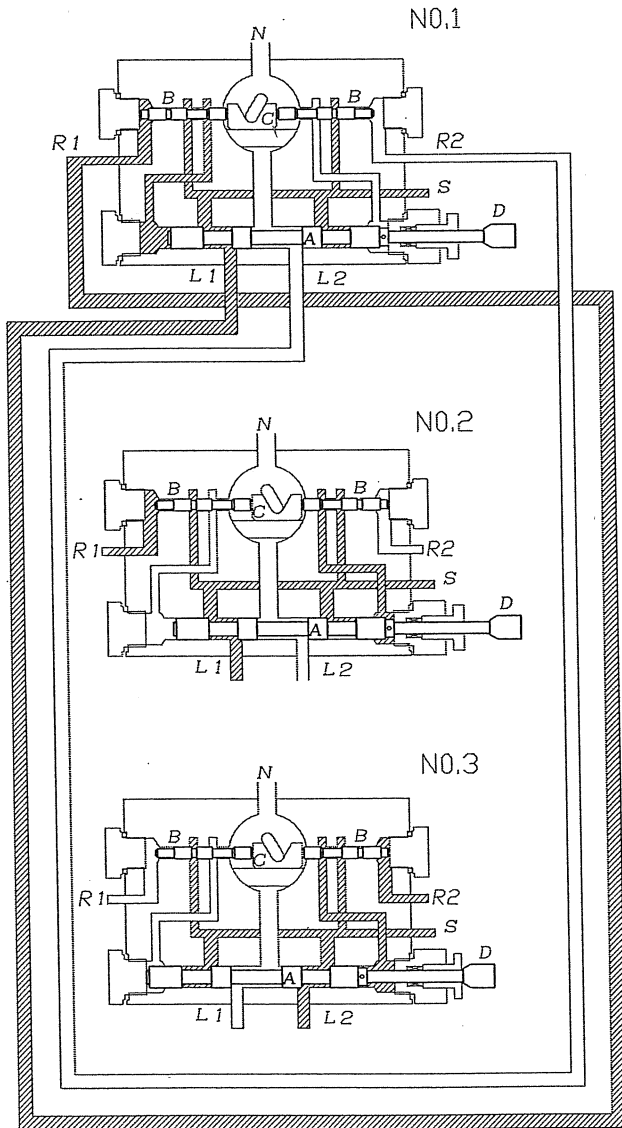

Fig.1
The composition is as show in Fig.1.
- (a) In No.1 of Fig.1, grease pressurized by the pump passes through the inlet S and is forced into the main supply pipe L1 by means of the piston A. At this time, the other main supply pipe L2-R2 is connected to the reservoir through N. The darkened part of Fig.1 shows the existence of pressurized grease. When the inner pressure of the main supply pipe L1 is raised, and all measuring valves complete their operations, the pressure at the end of the return pipe R1 from L1 begins to increase.
- (b) When the pressure in L1 exceeds the set valve, the rack piston B is moved to the right as shown in the No.2 of Fig.1. During this movement, grease entering into the cylinder through the inlet S is forced against the right end of the piston A by the movement of piston B. At the same time, the left end part of the piston A is connected to the relief line N.
- (c) Grease entering the cylinder through the inlet and pressurized by the pump moves the piston A to the left, as shown in the No.3 of Fig.1.
Upon completion of the above movement, the main supply pipe L1-R1 is connected to the relief line N. During this movement, the grease from the inlet S is fed to the main supply pipe L2. The piston A is provided with a switch lever D, as shown in Fig.1, so that the line reversing operations can be observed from the outside.
When the lubricating pump is started again, grease is admitted into the main supply pipe L2 as shown in No.3 of Fig.1.
After all, the measuring valve has been actuated by grease pressurized by the pump, the pressure at R2 line. When the pressure exceeds the set value, the piston B is moved to the left. With the movement of the piston B, the pressurized grease from the inlet S is forced against the left end of the piston A. This allows the piston A to move to the right as shown in No.1 of Fig.1. At this time, the limit switch is actuated by means of the switch lever D, and the lubricating pump stops. The line reversing pressure of this hydraulic-operated reversing valve can be adjusted by means of a spring tension adjustment screw attached to the pinion C. In other words, the adjustment can be accomplished by changing the pressure at the extreme end of the pipe which is used to move piston B meshed with pinion C to the opposite side.